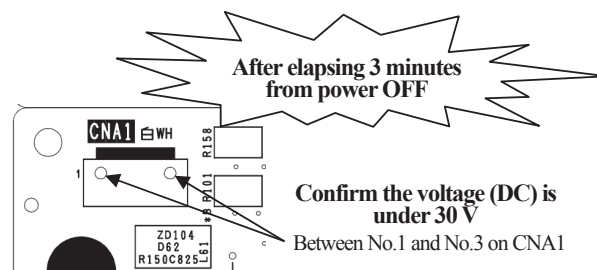

Fig.2 Voltage measurement point
1. Exchange the PCB **after elapsing 3 minutes from power OFF**. (After having shut down the breaker, some capacitor is held by high voltage. It is very dangerous to touch the Control PCB in this condition.) **Confirm the voltage (DC) is under 30 V** with the harnesses connected to Control PCB. (Refer to Fig.2)